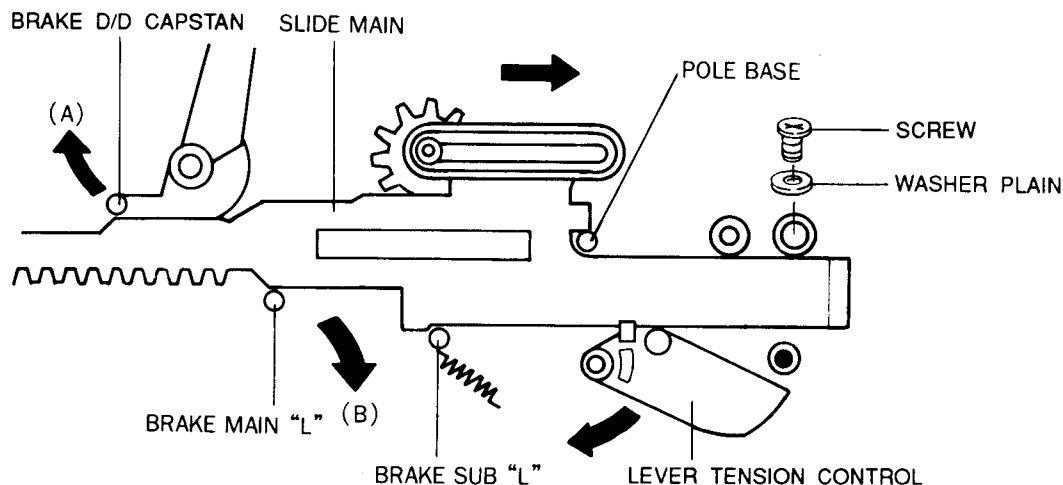

Fig. 53 Timing of Slide Main
2. Install the slide main between brake D/D capstan and brake main "L", while pulling the brake D/D capstan and the brake main "L" toward arrow (A) and (B) respectively.
3. At the same time, make sure the brake sub "L" and the pole base is located as shown in the Fig. 53.